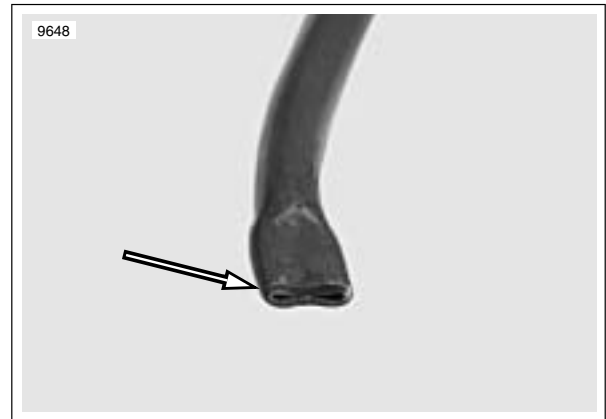

Figure 4-110. Nozzle
2. See Figure 4-110. Flatten one end of copper tube to form a nozzle.